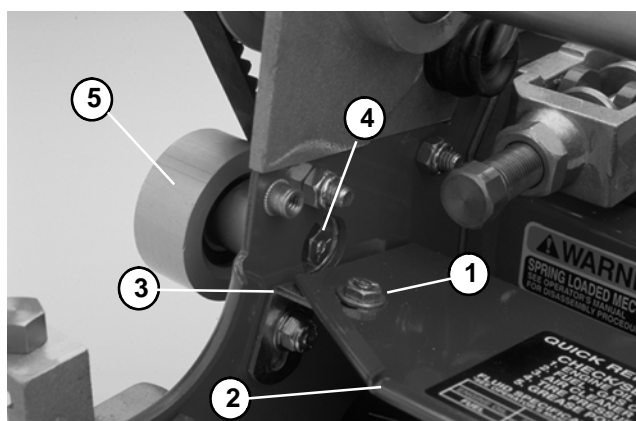

Figure 8
B. Remove cap screws, flat washers, and nuts securing the grass shield to the shield brackets. Move grass shield to access the cap screw securing the idler pulley (Fig. 8).
C. Loosen idler pulley cap screw (Fig. 8).
E. Tighten cap screw to lock adjustment (Fig. 8).
G. Reinstall grass shield to shield brackets with cap screws, flat washers, and lock nuts (Fig. 8).
3. Remove cap screws, flat washers, and nuts securing grass shield to shield brackets. Move grass shield to access the cap screw securing the idler pulley (Fig. 8).
4. Reinstall grass shield to shield brackets with cap screws, flat washers, and lock nuts (Fig. 8).